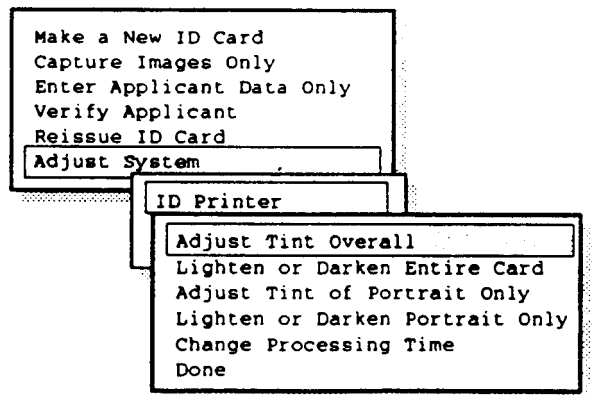

Figure 2-37 Color Thermal Printer adjustment menu
3. Select **ID Printer** to display the color thermal printer adjustment menu (Figure 2-37).